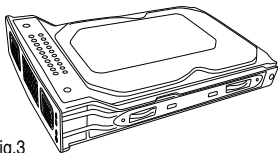

Fig.3
3. Use the mounting screws to securely attach the HDD to the trays (Fig. 3).